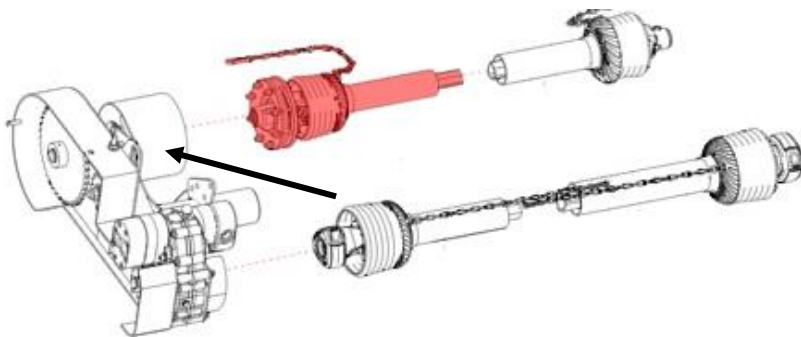

**Figure 7**
- These units can be identified by: Figure 7 and 8